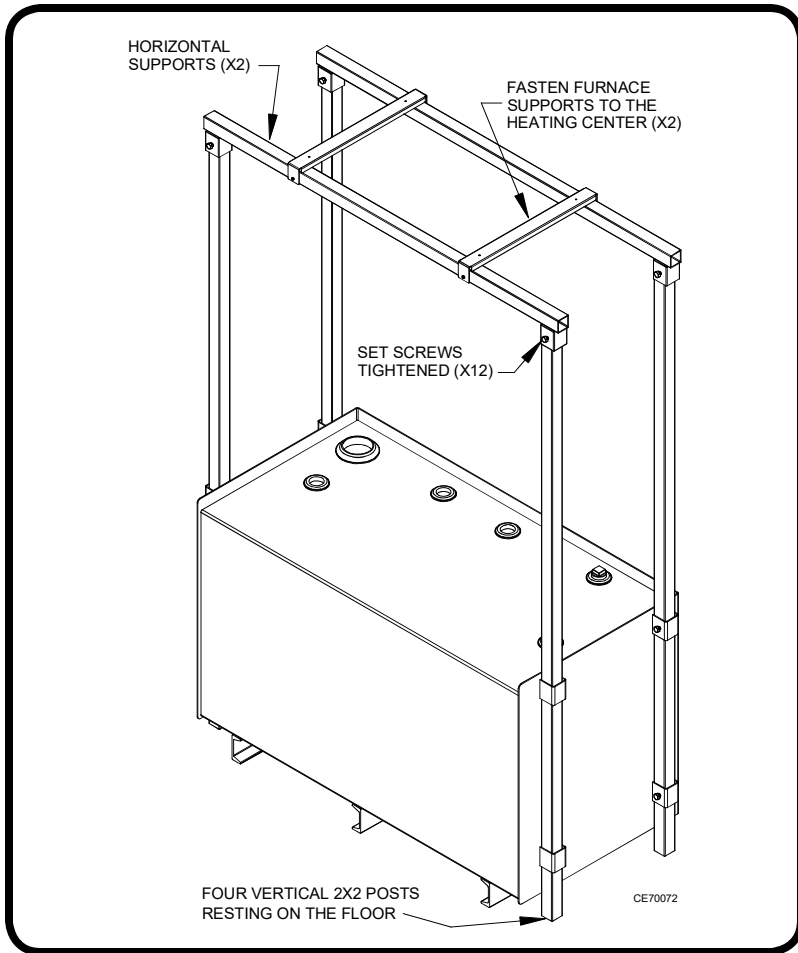

Figure 1: Tank and Support Legs Assembly
- (1) Refer to Figure 1
- (2) Slide the four (4) 2" X 2" Vertical Posts through the channels on each side of the tank until they rest on the floor. Having the vertical supports down on the floor will ensure the weight of the furnace is properly supported.
- (3) Place the Horizontal Supports across the top of the 2" X 2" Vertical Posts
- (4) Install and tighten the twelve (12) set screws to secure all vertical and horizontal supports
- (5) Fasten the Furnace Support Brackets to the Horizontal Supports with screws provided.